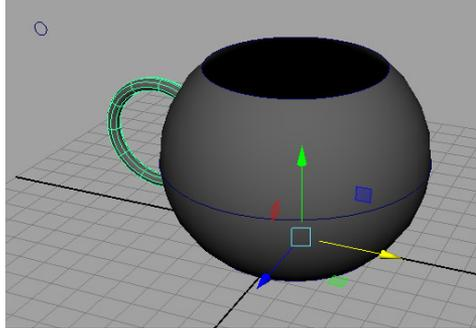

Figure 3-70 Handle aligned with the teapot
- Choose the **Four View** button from the Tool Box to switch to four views. Move the cursor to the persp viewport and then press the SPACEBAR key to maximize the persp viewport. Press 5 to view the surface in the shaded mode, if not in the shaded mode. Choose **Move Tool** and **Rotate Tool**, if required. Next, align the handle on the body of the teapot, as shown in Figure 3-70.